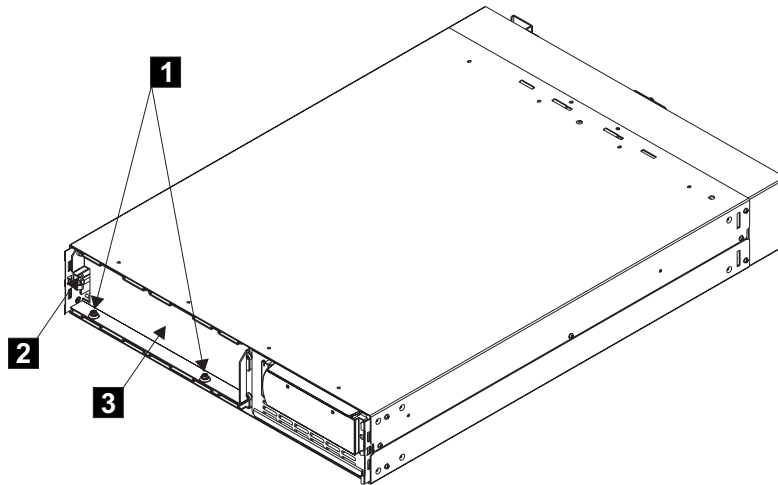

Figure 75. Remove the battery retaining bracket
- c. Remove the two bolts **1** and additional nut **2** on the left side of the bracket and remove the battery retaining bracket **3**. See Figure 75.